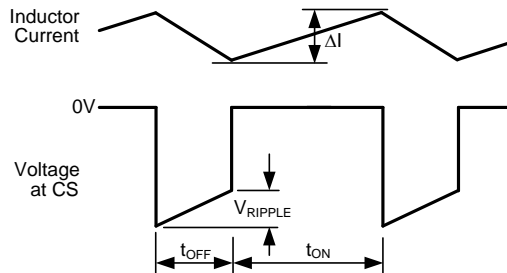

**Figure 15. Normal and Current Limit Operation**
Figure 15 illustrates the inductor current waveform during normal operation and in current limit. During the first normal operation, the load current is  $I_{O1}$ , the average of the inductor current waveform. As the load resistance is reduced, the inductor current increases until the lower peak of the inductor ripple current exceeds the threshold. During the current limited portion of Figure 15, each on-time is reduced by approximately 40%, resulting in lower ripple amplitude for the inductor current. During this time the LM25011 is in a constant-current mode with an average load current equal to the current limit threshold plus half the ripple amplitude ( $I_{OCL}$ ), and the output voltage is below the normal regulated value. Normal operation resumes when the load current is reduced (to  $I_{O2}$ ), allowing  $V_{OUT}$  and the on-time to return to their normal values. Note that in the second period of normal operation, even though the peak current of the inductor exceeds the current limit threshold during part of each cycle, the circuit is not in current limit because the inductor current falls below the current limit threshold during each off-time. The peak current allowed through the buck switch is 3.5 A and the maximum allowed average current is 2.0 A.
**RS:** The minimum current limit threshold is calculated at maximum load current using the minimum ripple current calculated above. The current limit threshold is the lower peak of the inductor current waveform when in current limit (see Figure 15).